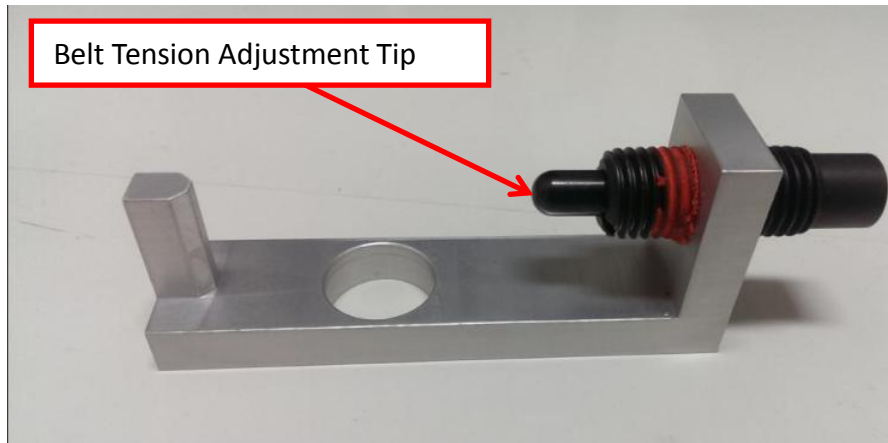

Figure 19 Belt Tension Kit
6. Prepare Belt Tension Kit (Part ID: 4XASP-A114) as shown in Figure 19